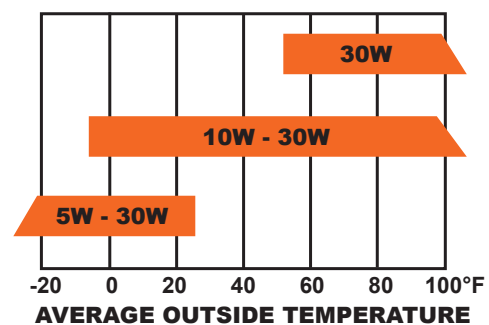

Figure 6
3. If the oil level is near or below the lower limit mark on the dipstick, fill to the bottom edge of the oil fill hole with SAE 10-30W engine oil. See the SAE Viscosity Chart for other oil weights and temperatures (see Figure 6). To avoid overfilling or underfilling, be sure the engine is in a level position while adding oil.